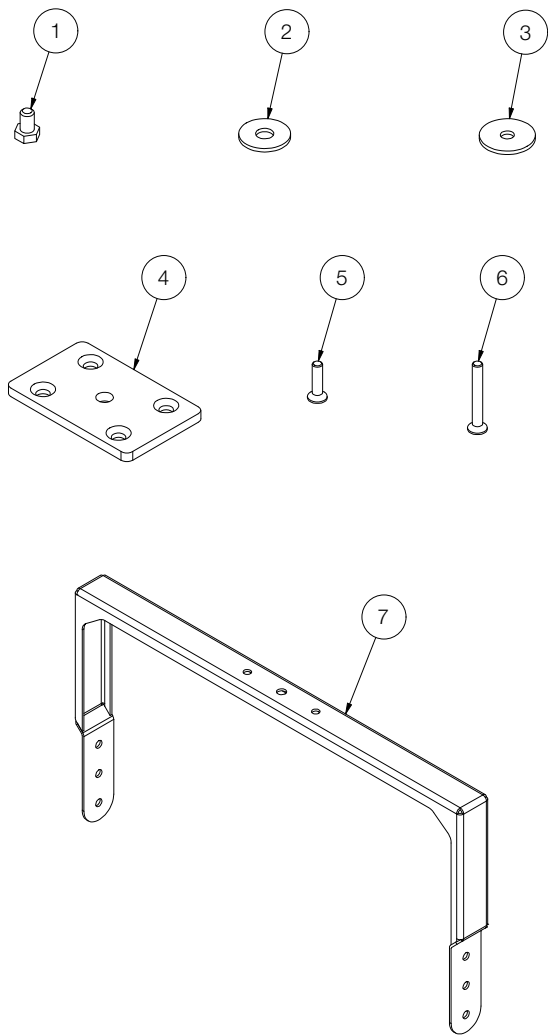
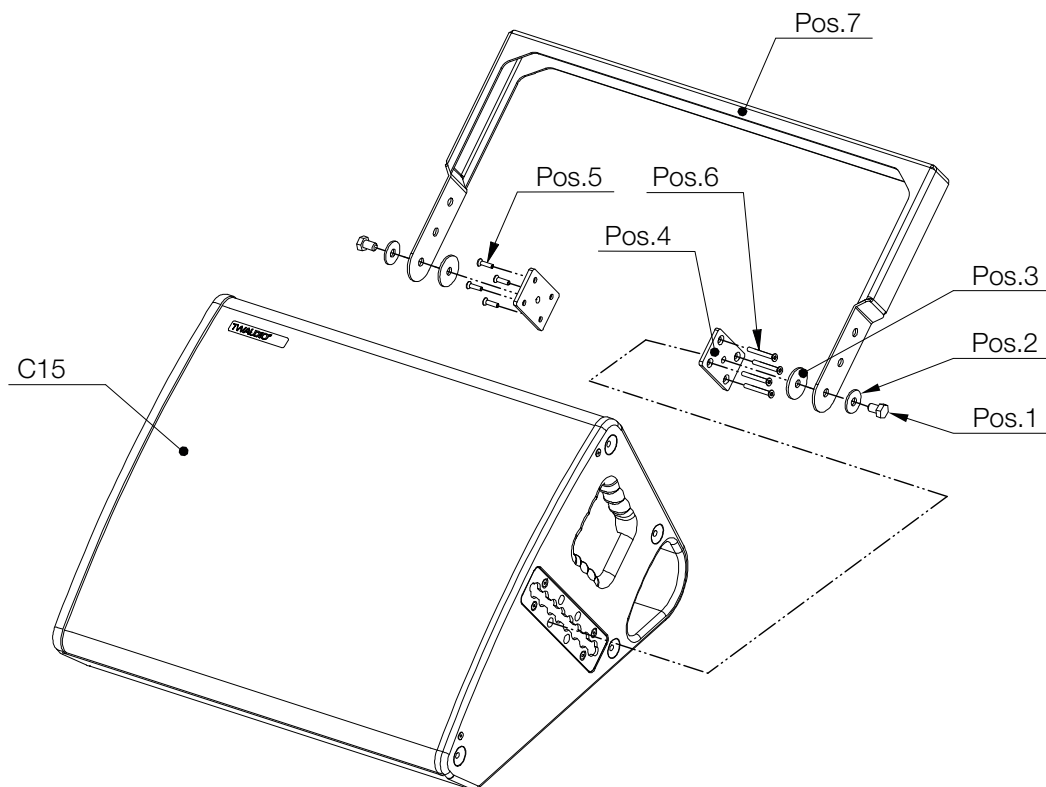

Figure 2.1 - Overview
Figure 4.4.2 - Assembly QBC15 to C15 loudspeaker
Mount positions 1 to 6 (see figure 2.1) on both sides as shown in figure 4.4.2. Note that at pos.7 (see figure 2.1) one of the side holes is used.